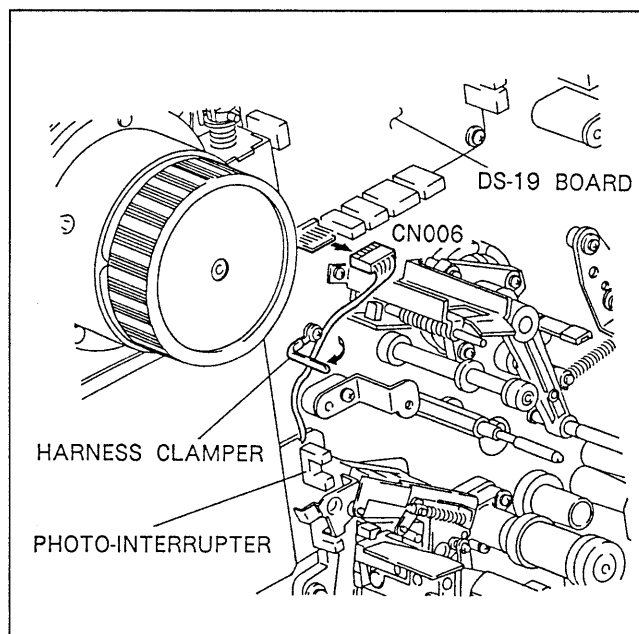

Fig. 6-4-1. Harness Removal
1. Disconnect the connector CN006 from the DS-19 board as shown in Fig. 6-4-1 and then remove the harness from the harness clamber.